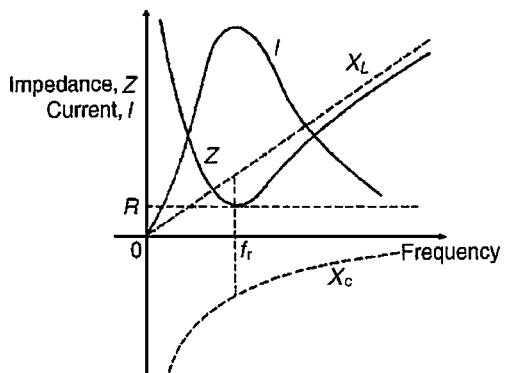

Figure 15.21
- (vi) Typical graphs of current  $I$  and impedance  $Z$  against frequency are shown in Fig. 15.21